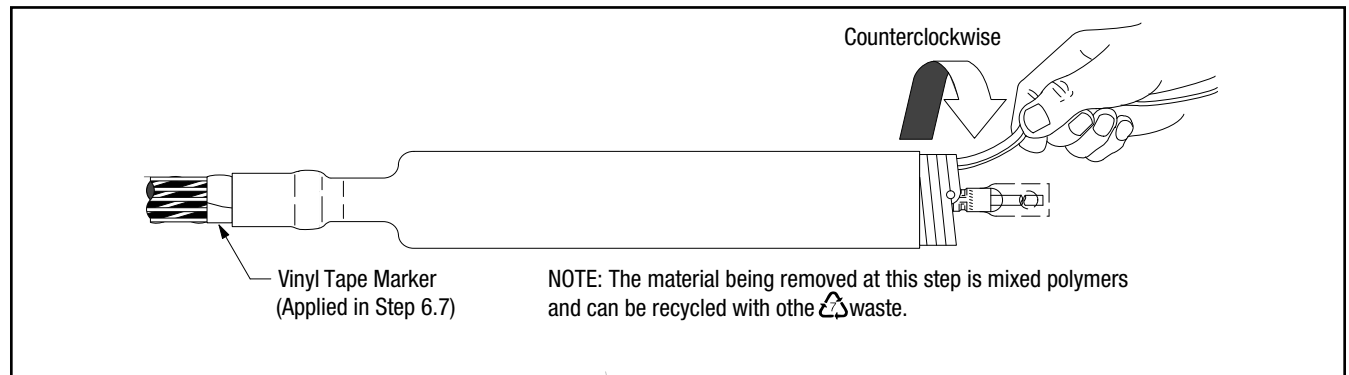

Figure 10
- 9.1 Slide the termination body onto the cable and remove core. Make sure the termination body (not the core) is butted up to the edge of the vinyl tape marker previously applied (Figure 10). Pull the core while unwinding, counterclockwise, starting with the loose end (Figure 10). Be sure to alternate the pulling and unwinding actions (pull-unwind-pull-unwind-etc.) to help prevent the core material from binding up as the core is being removed